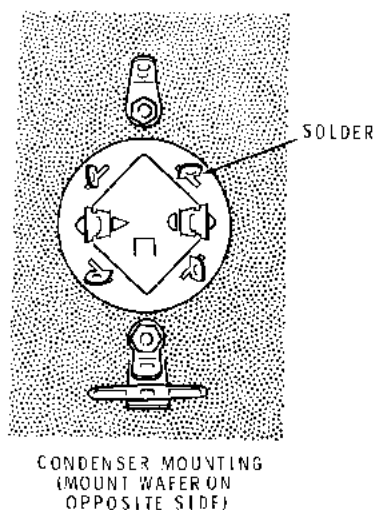

Figure 8
- () Mount the 1000-1000 μfd condenser on the mounting wafer in position T. The manner of mounting is shown in Figure 8. Secure the condenser to the wafer by twisting each of the four mounting lugs about 1/8 turn with the pliers. Hold the condenser firmly against the wafer while twisting the lugs.